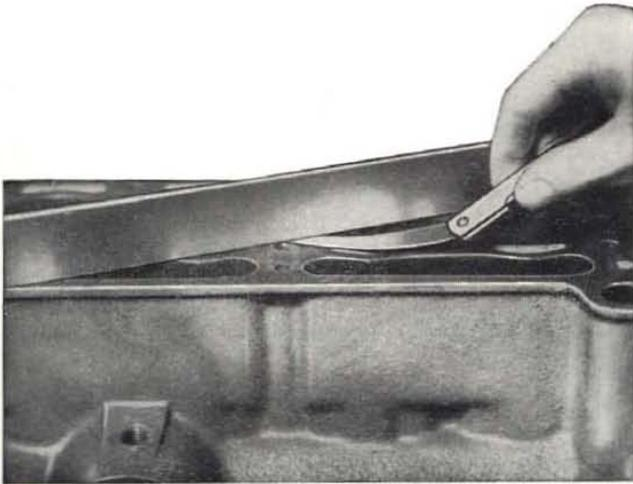

Fig. 34 - Checking lower face of crankcase.
**NOTE** - Cylinder head mating surface can be also inspected for level using a straightedge and a feeler gauge as shown in fig. 34.